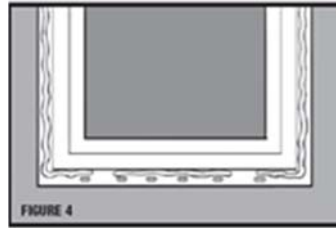

Figure 4
3.2.1 Apply a continuous bead of QUAD Max to the interior side of the nailing fin, on jambs and head flanges and an intermittent bead on the sill flange (Figure 4).